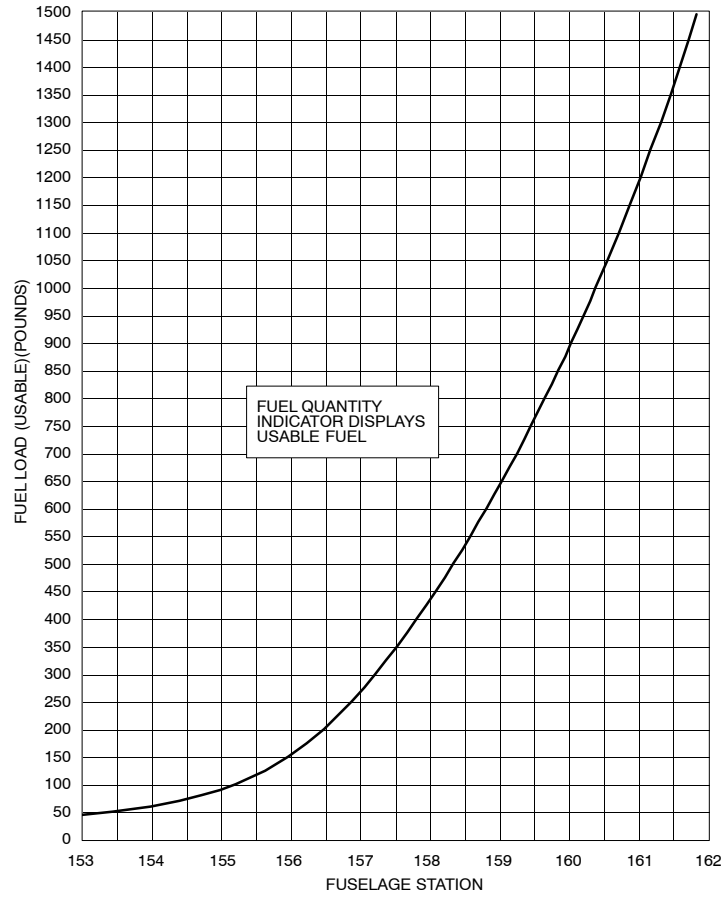

Figure 7-5. Fuel Load Center of Gravity Chart
- Figure 7-5 Fuel load center of gravity chart